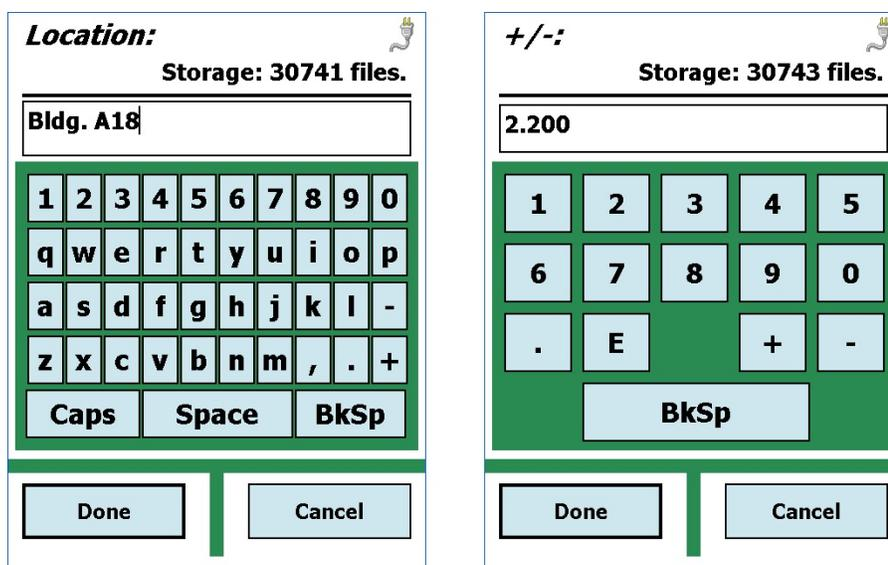

Figure 21. Data Entry Screens: Alphanumeric and Numeric Data for Item Database and Inspection Data.
Figure 21 shows the screens for data types 3 and 4.
- 3) **Alphanumeric Data** — Tap in the desired field to open the keyboard shown on the left side of Fig. 21. Use **BkSp** to backspace over errors. To accept the new value and return to the preceding screen, tap **Done**. To retain the existing value, tap **Cancel**.
- 4) **Numeric Data** — Tap in the desired field to open the keyboard shown on the right side of Fig. 21. Note that the **E** (exponent) and +/- buttons allow you to enter values using scientific notation. To accept the new value and return to the preceding screen, tap **Done**. To retain the existing value, tap **Cancel**.